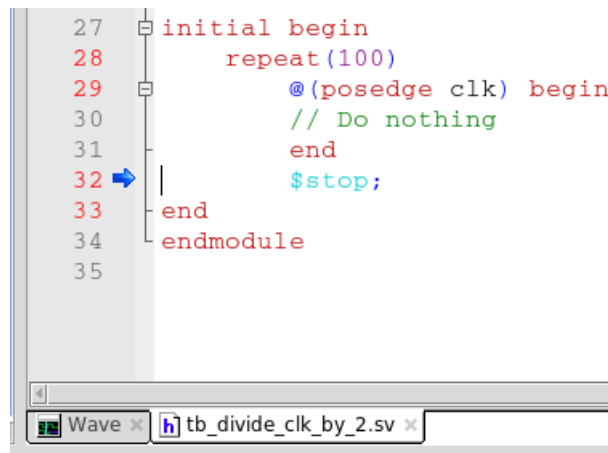

Figure 12: \$stop construct in testbenches.
10. So far, we've compiled our source files, loaded our simulation environment and our testbench. However, we haven't actually started our simulation. In order to start our simulation, on the top menu select **Simulation** → **Run** → **Run -All**. ModelSim will perform the simulation and it should open the testbench file pointing to a **\$stop** construct as shown in Figure 12. This is a control statement used in testbenches in order to prevent the simulator to continue with its simulation indefinitely. Go back to the waveform panel by clicking on **Wave** next to the name of the testbench, as shown in the lower left corner of Figure 12.